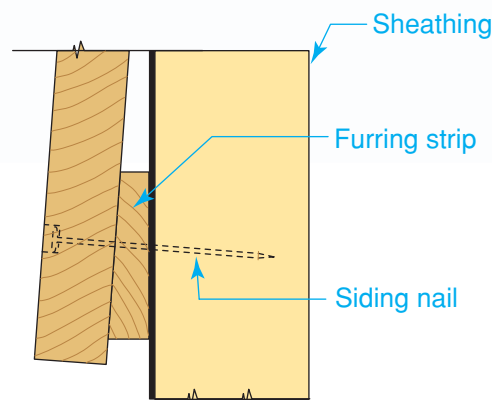

Figure 23-11 Starter Strip
Step 2 Snap a chalk line between the lowest marks around the perimeter of the house. Nail a furring strip (sometimes called a *starting strip*) about $\frac{3}{8}$ " above this line to provide support for the first course. The strip can be a board ripped at an angle or an extra siding board (see **Figure 23-11**).